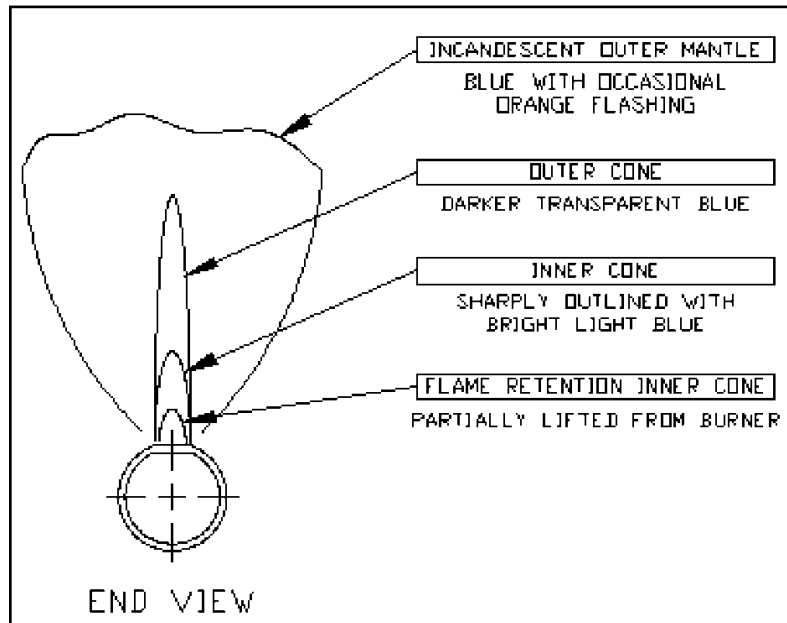

Figure 24: MAIN BURNER FLAME - 1" BURNERS
- 13) Inspect the main burner flames visible through the observation port in burner access panel. The flame should be stable and mostly blue (see Figure 24). No yellow tipping should be present; however, intermittent flecks of yellow and orange in the flame are normal.